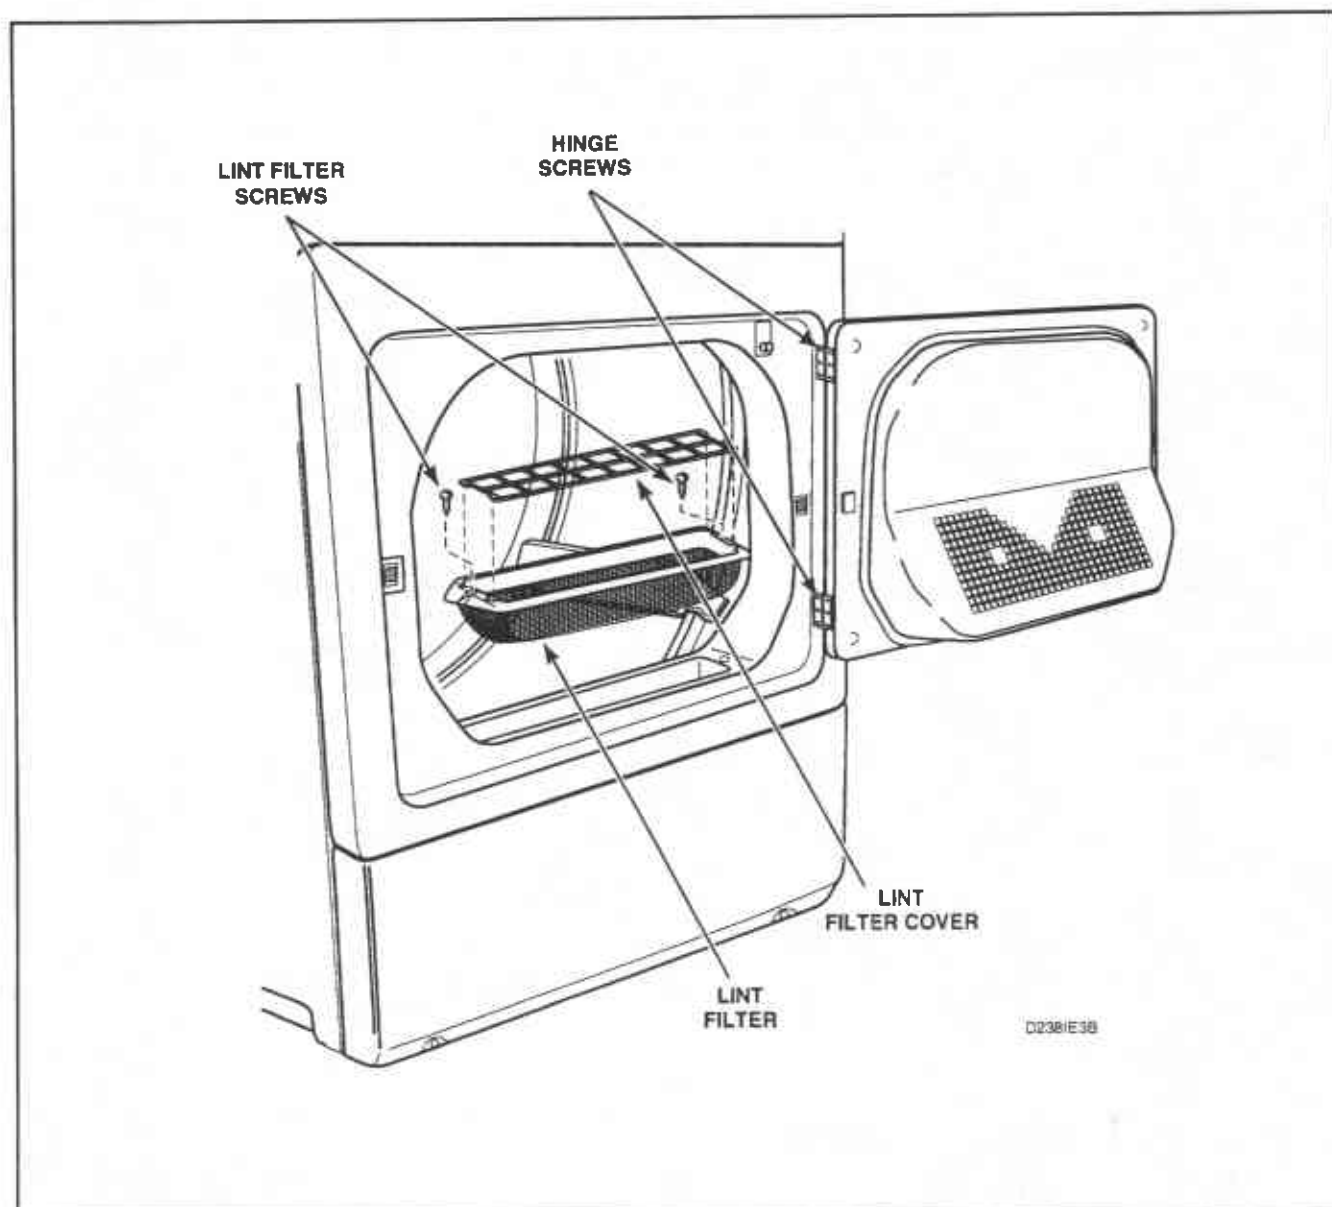

Figure 9
14. LINT FILTER (Figure 9)
- Remove four screws holding door assembly to hinges, *Figure 9*.
- Remove screws holding loading door to hinges, *Figure 9*.